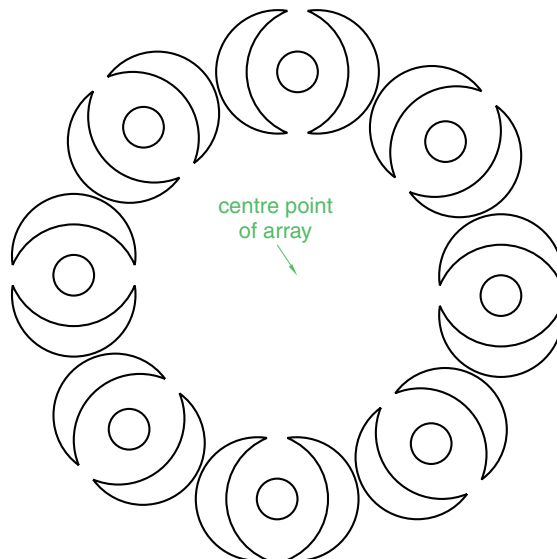

Fig. 5.22 Second example – **Array**
Second example – Polar Array (Fig. 5.22)
4. The dialog reappears. Click its **Preview**< button, the array appears with its warning dialog; if satisfied with the result, click the **Accept** button of this dialog (Fig. 5.22).